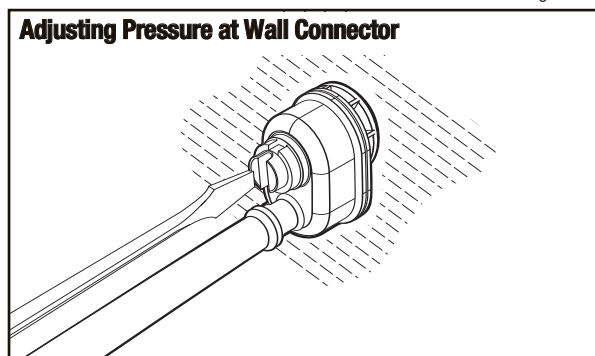

Figure 2
1. Turn the filtration system pump **ON** then the Booster Pump **ON**. Read the pressure on the Setup Pressure Gauge connected to the Cleaner Connector. Use a flat blade screwdriver to adjust the Wall Quick Connect Knob (see figure 2) until the pressure reads 25 PSI (+/- 5 PSI).
Removing Debris bag (Figure 2)